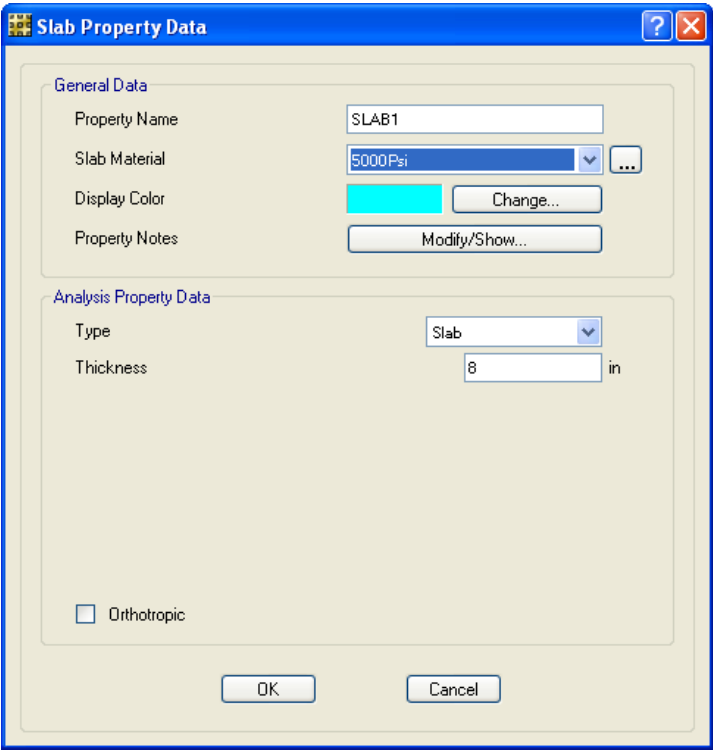

Figure 62 Slab Property Data form
- C. Recall that for this tutorial project, the slab thickness is 8 inches. To adjust the default dimensions of *SLAB1*, click the **Modify/Show Property** button to access the Slab Property Data form shown in Figure 62.